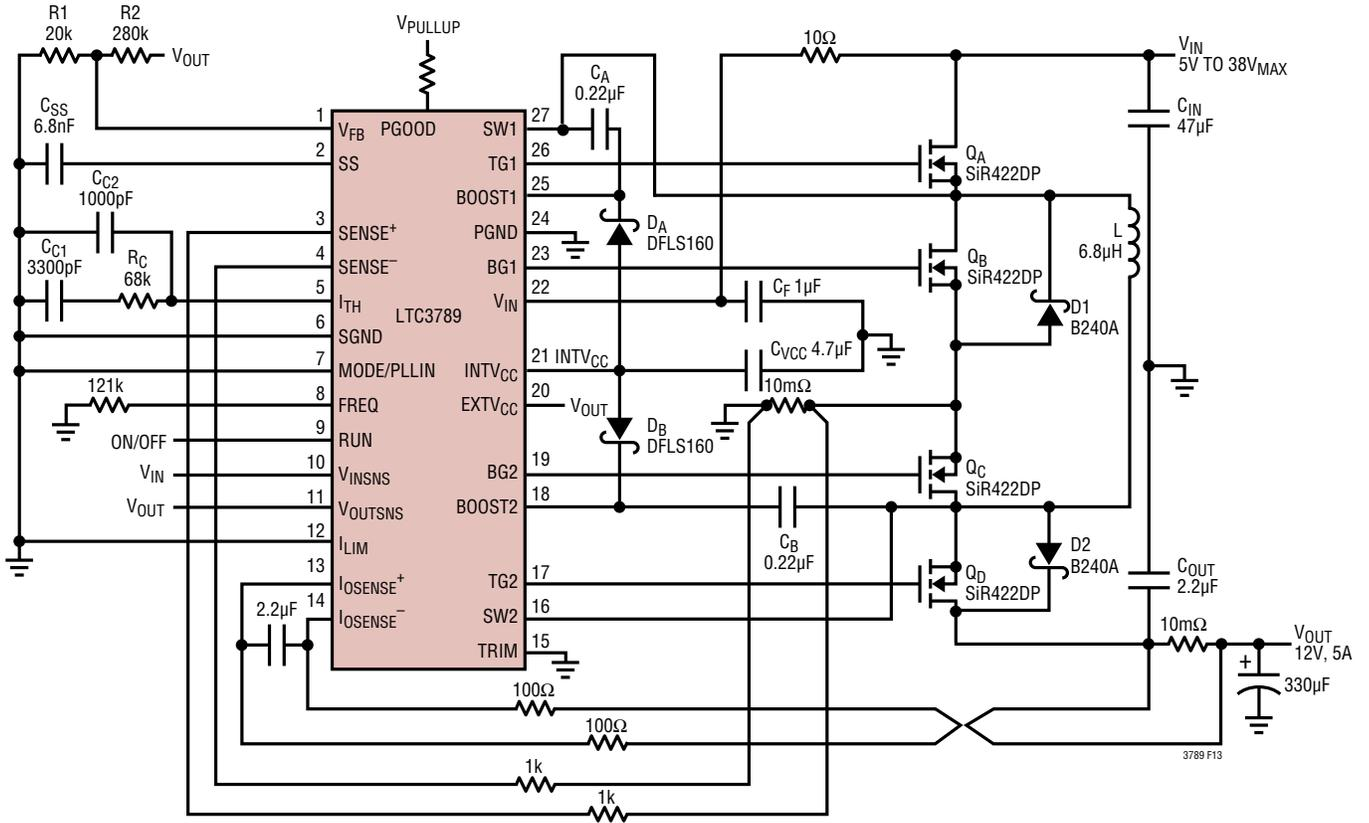

Figure 13. LTC3789 12V/5A, Buck-Boost Regulator
where R1 and R2 are defined in Figure 13.
Referring to Figure 13, the external bootstrap capacitors  $C_A$  and  $C_B$  connected to the BOOST1 and BOOST2 pins supply the gate drive voltage for the topside MOSFET switches A and D. When the top switch A turns on, the switch node SW1 rises to  $V_{IN}$  and the BOOST1 pin rises to approximately  $V_{IN} + INTV_{CC}$ . When the bottom switch B turns on, the switch node SW1 drops to low and the boost capacitor  $C_A$  is charged through  $D_A$  from  $INTV_{CC}$ . When the top switch D turns on, the switch node SW2 rises to  $V_{OUT}$  and the BOOST2 pin rises to approximately  $V_{OUT} + INTV_{CC}$ . When the bottom switch C turns on, the switch node SW2 drops to low and the boost capacitor  $C_B$  is charged through  $D_B$  from  $INTV_{CC}$ . The boost capacitors  $C_A$  and  $C_B$  need to store about 100 times the gate charge required by the top switches A and D. In most applications, a 0.1 $\mu\text{F}$  to 0.47 $\mu\text{F}$ , X5R or X7R dielectric capacitor is adequate.
- Flood all unused areas on all layers with copper. Flooding with copper will reduce the temperature rise of power components. Connect the copper areas to any DC net ( $V_{IN}$  or GND). When laying out the printed circuit board, the following checklist should be used to ensure proper operation of the LTC3789. These items are also illustrated in Figure 13.